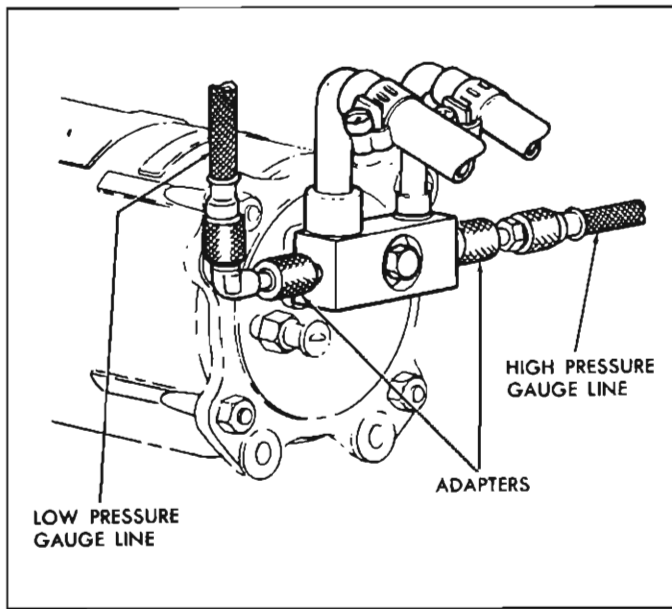

Fig. 11-19—Compressor Connector with Gauge Lines Installed
3. Connect the gauge line adapters to the threaded fittings on the compressor connector, see Figure 11-19.